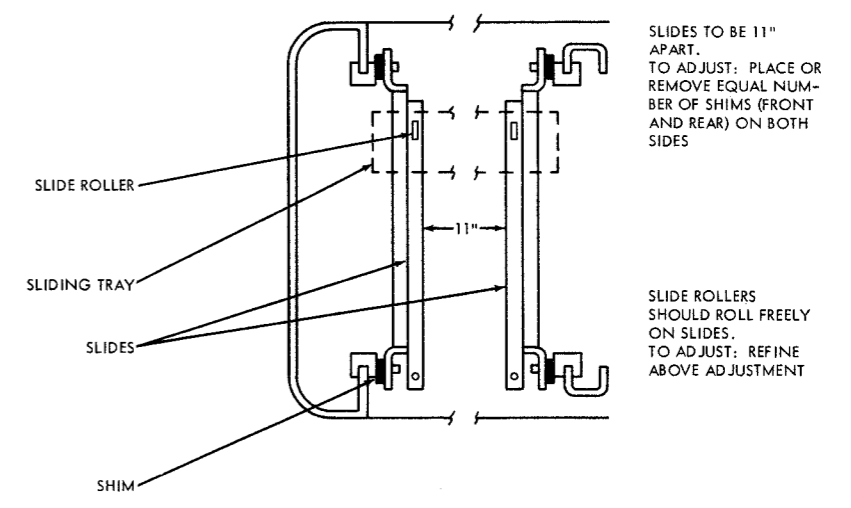

Figure 7-3. Receiver Cabinet, Adjustments
(1) BASE.—Adjust the wire duct in the base so that it is in line with the front base frame and that the rear base frame and the three base parts are flush on each side and the bottom.
(2) CENTER SUPPORT FRAME.—Adjust the center support so that it is the same distance, within 1/32 of an inch, from each side of the cabinet shell. To adjust, place or remove shims between the nut and the center support brackets (see figure 7-3).
(3) CONTROL PANEL SUPPORT.—The two mounting strips should be adjusted so that they are in the same vertical plane and the two mounting strips are separated by 11-5/16 inches, within 1/32 of an inch, and that the tapped holes in the mounting strip are in vertical lines with the centers of the corresponding slots in the mounting strip. To adjust, remove the two screws holding the mounting strip to the control panel support and add or remove washers until the 11-5/16-inch dimension is satisfied. Then replace the screws loosely. Loosen the two screws holding the control panel support and adjust the center support and the mounting strip. Tighten all the screws.
(4) SLIDE.—The slides should be adjusted until they are 11 inches apart. To adjust, place or remove shims between the side panels and the nuts holding the side panel mounting screws.
(5) SLIDING TRAY.—The slide rollers mounted on the sliding trays should roll freely on the slide tracks. To adjust, refine adjustment (4), above, by placing or removing shims.
(6) REAR CONTROL PANEL.—The left and right brackets should each be mounted 7/32 of an inch from the rear face of the cabinet. Adjust by means of their mounting screws. Also, when the rear panel is mounted, it should be parallel to the top of the cabinet. Adjust by repositioning the left and right brackets.
(7) REAR DOORS.—When the doors are closed, they should be held firmly against the center support. To adjust, bend the latching strips to obtain a friction engagement of latching strips and latch.
(8) CONTROL PANEL.—The two bracket assemblies should be mounted 7/32 of an inch from the front face of the cabinet shell, and, with the control panel locked in position, they should be tightly closed. To adjust, refine the positioning of the two bracket assemblies and the hinges.
(9) FRONT DOORS.—The front doors should latch tightly. To adjust, position the door strikes and latch fasteners until a tight closing is obtained.
(10) BOTTOM FRONT DOORS.
(1) BASE.—The adjustment of the base of the Monitor Cabinet is the same as that of the Receiver Cabinet. See figure 7-3 for the base adjustment.
(2) DISAPPEARING DOOR ADJUSTMENT.—The eight adjustments for the disappearing door should be taken in order as follows: